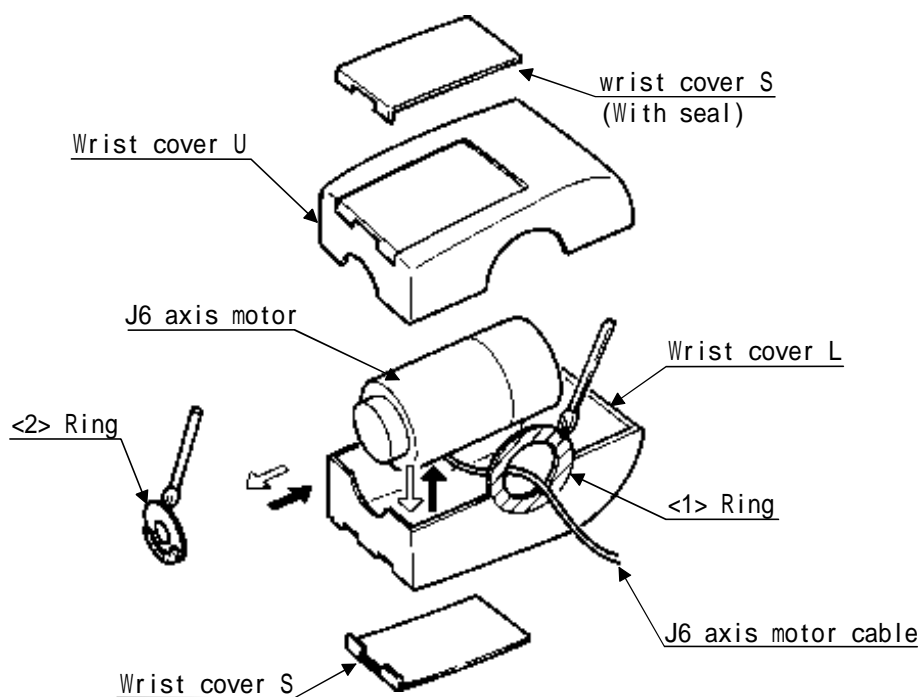

Fig.5-17 : Lubrication to wrist housing end and between elbow block and forearm
Fig. 5-17 shows the procedures for Lubrication to wrist housing end and between elbow block and forearm. Refer to the "5.3.2Installing/removing the cover" on page 48 and remove the necessary covers.
- 6) Return the ring <2> to the original position. Match the surface that the sponge is attached to the outer side and toward the wrist cover L side as shown in the Fig. 5-17.